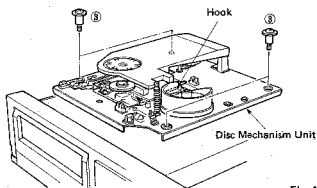

Fig. 4
Remove 4 screws (③) in Fig. 4, and lift the Disc Mechanism Unit gradually.